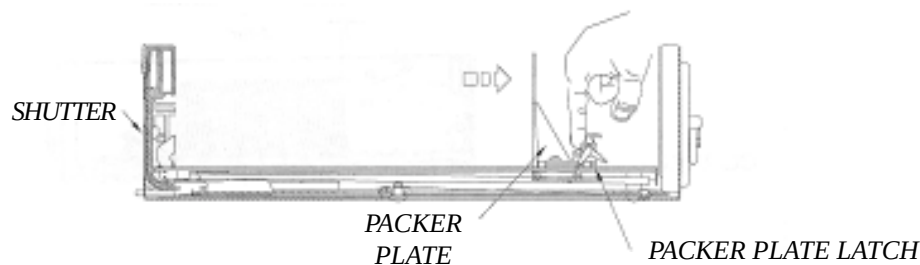

Figure 4-5. Locking the packer plate latch.
3. While pressing on the green packer plate latch, as shown in Figure 4-5, pull the packer plate backward until the latch locks in place.